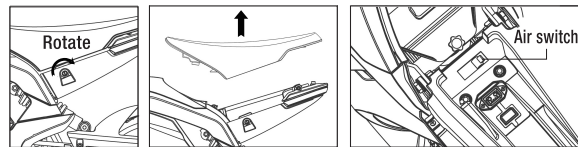

Figure 2
- ① Unlock the seat lock - remove the seat - turn off the air switch. (Figure 2)